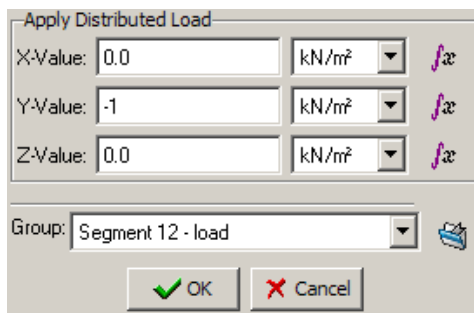

Figure 1.10 The *Apply Distributed Load* window
- Double click the *Distributed Load* item in the *Loads* subtree to open the *Apply Distributed Load* window (see Figure 1.10).